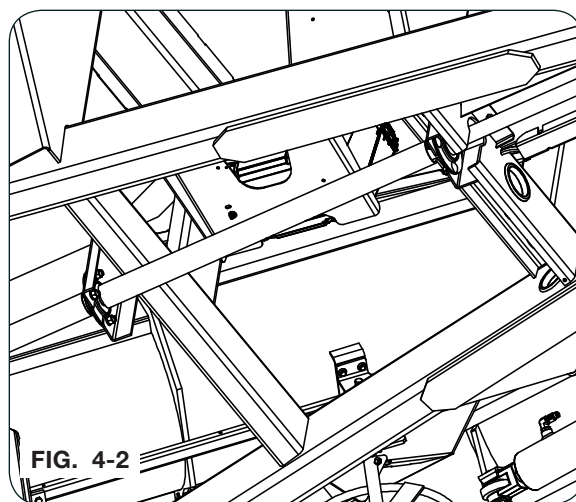

FIG. 4-2
3. Remove the 3/8" hex bolts (9390-055), flange nuts (9394-006), and lock washers (9404-021) holding the flangette bearings. Keep hardware. (Fig. 4-2).
1. For the lower auger, use the top edge of the flighting as a 12 o'clock reference. Position the drive dog so the driving edge is at the 5 o'clock position. (FIG. 4-2)
**NOTE:** Looking down at the lower flighting (as in Fig. 4-2) the auger rotation will be clockwise. When looking up at the upper flighting (as in Fig. 4-3) the auger rotation will be counter-clockwise.